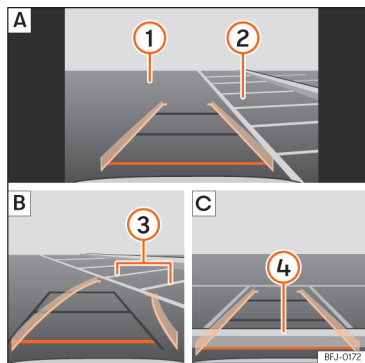

Fig. 144 Display on the infotainment system screen: parking with the reverse assistant.
Key to >>> **Fig. 144:**
- Stop the vehicle in front of the parking space >>> **Fig. 144** **2** **A**.